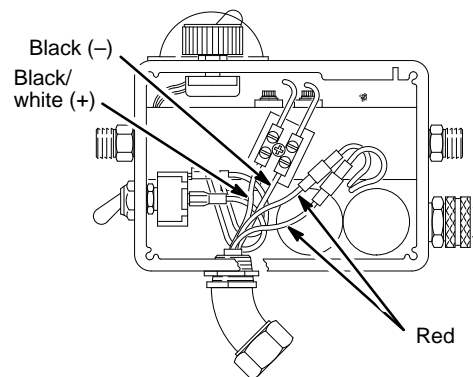

Fig. 42
1. Disconnect the hose (47).
2. Disconnect the drain tube (101) from the drain valve.
3. Loosen the outside filter bracket nut (28). Unscrew the fitting (8) and remove the filter.
4. Remove the pressure control cover (36). Disconnect the four motor leads. See Fig. 42.
5. Unscrew the connector (54). Pull the wires out of the pressure control.
6. Remove the pressure control mounting screws (37). Remove the pressure control. Install the connector (54) on the new pressure control.
7. Install the new pressure control. Place the seal (103) around the motor leads and push the seal into the connector (54).
1. Remove the back pressure control plate (16).
2. Remove the pressure control cover. Disconnect the power supply cord leads. See Fig. 42.
3. Loosen the strain relief bushing (B). Remove the power supply cord (23).